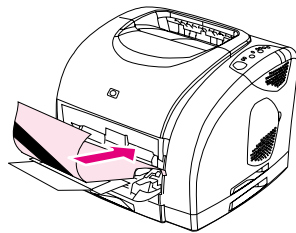

Figure 13. Loading the cleaning page in tray 1
- 5 Remove the page that printed and load it face-down into tray 1 (see figure 13).